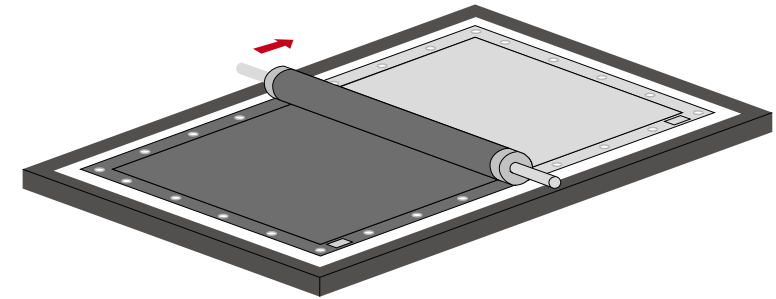

figure 4
1.Put the whole frame upside down and then unwrap the screen fabric (avoid scraping the fabric when unwrapping) (figure 4).